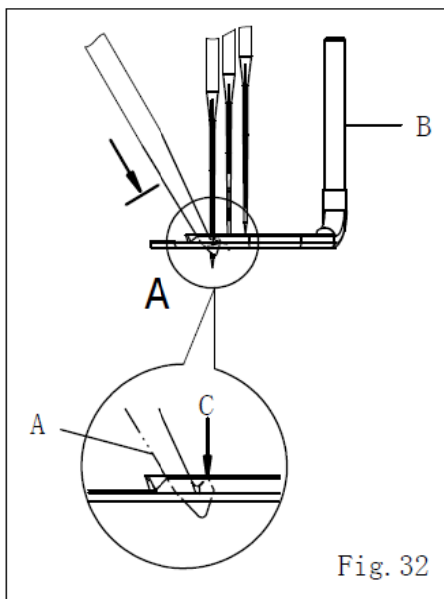
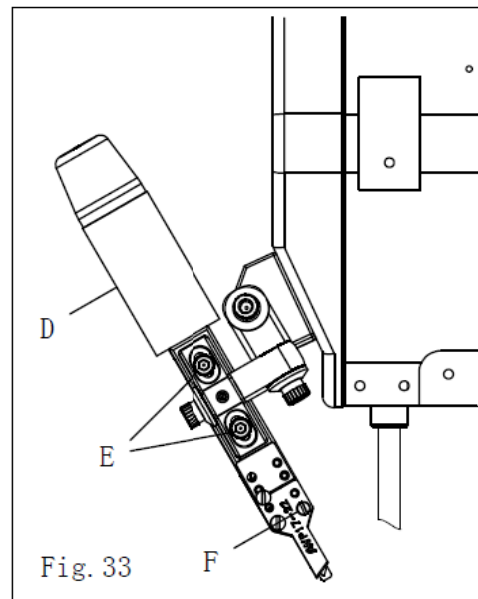

Fig. 32
Fig. 33
当活动刀片(A)移至最低点时活动刀之刀尖与上勾针(B)之上沿须切齐等高(C)。(图32)调整时放松上切刀组(D)上之两个螺丝(E),再上下移动上切刀组之位置。(图33)
上切刀组之活动刀与固定刀压力可由螺丝(F)旋转微调至适当压力。(图33)
When the Top Trimmer Moving Knife move to the lowest point, the tip (C) of Moving Knife align with top of Spreader (B). (Fig. 32)
To loose the two screws (E) of Top Trimmer (D) then, to adjust up and down for top trimmer position. (Fig. 33)
The pressure of Top Trimmer Moving & Fixing Knife which be adjusted via micro turn the screw (F) to get the suitable pressure. (Fig. 33)